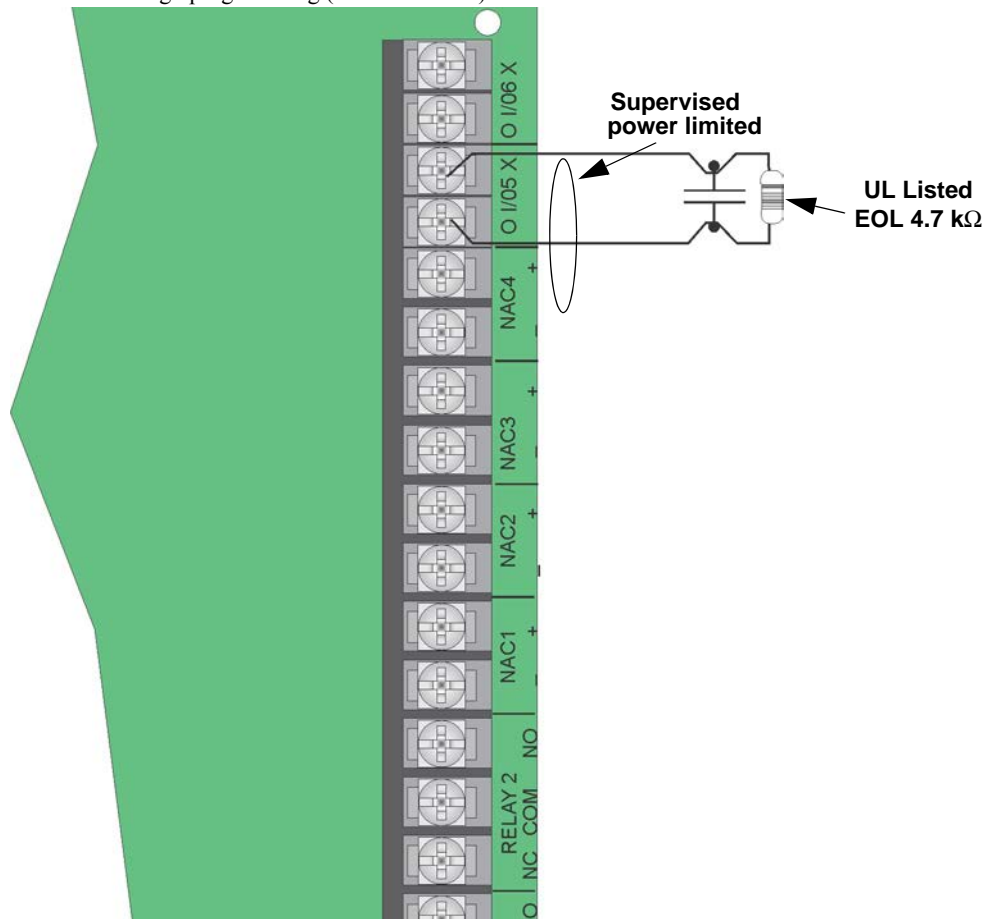

Figure 4.45 Class B Input Switches
1. Wire the Class B switch as shown in Figure 4.45.